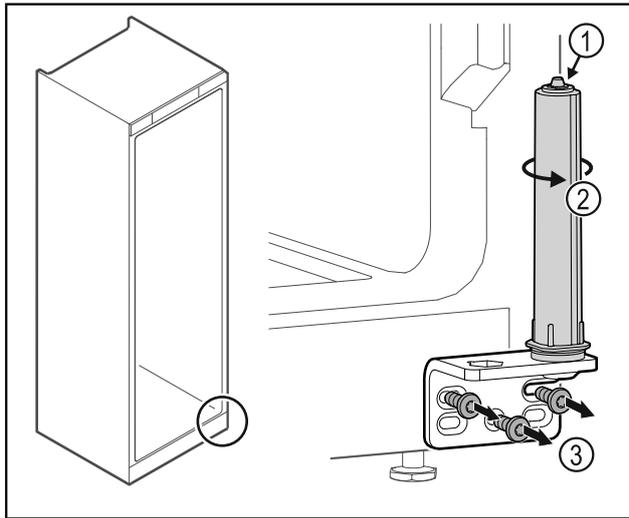

Fig. 28
- Do not disassemble the door closing system Fig. 28 (1).
- ▶ Turn the closing system Fig. 28 (2) until it clicks.
- ▶ Unscrew the hinge Fig. 28 (3).